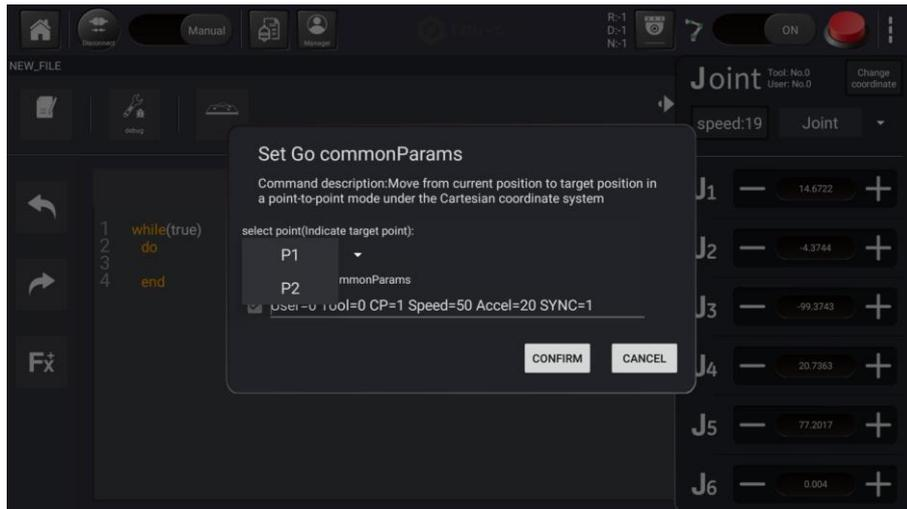

Figure 5.45 Edit program
**Step 3** Click **Edit** to edit program, click to select **Move>Go**, add two Go commands and select Point P1 and P2 in the two **Go** commands respectively, as shown in Figure 5.45.